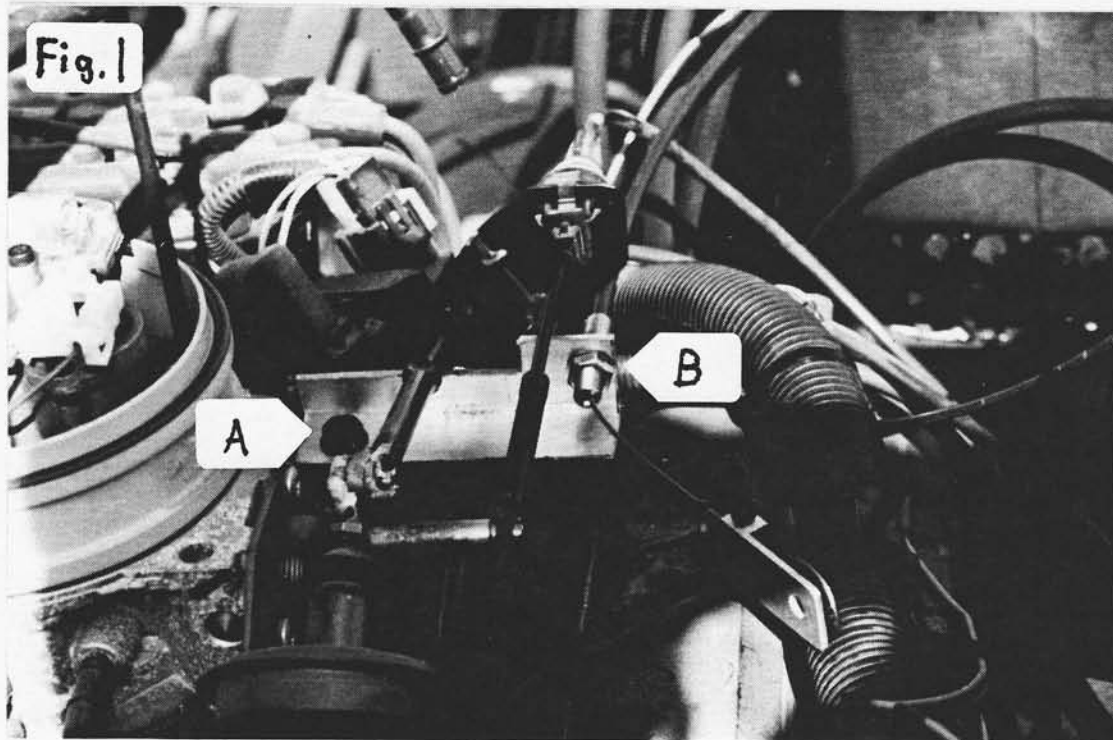

FIG. 2
- 21) Attach idler throttle cable to cruise control pivot (fig.2A). Use the two (2) spacers (fig.2-B) to center the linkage adapter (fig.2-C). Retainer clip (fig.2-E) is supplied for units that don't have cruise control (fig.2-D).
- 22) Leave approx. 1/2" of slack in cable and tighten the screws on the linkage adapter (fig.2-C).